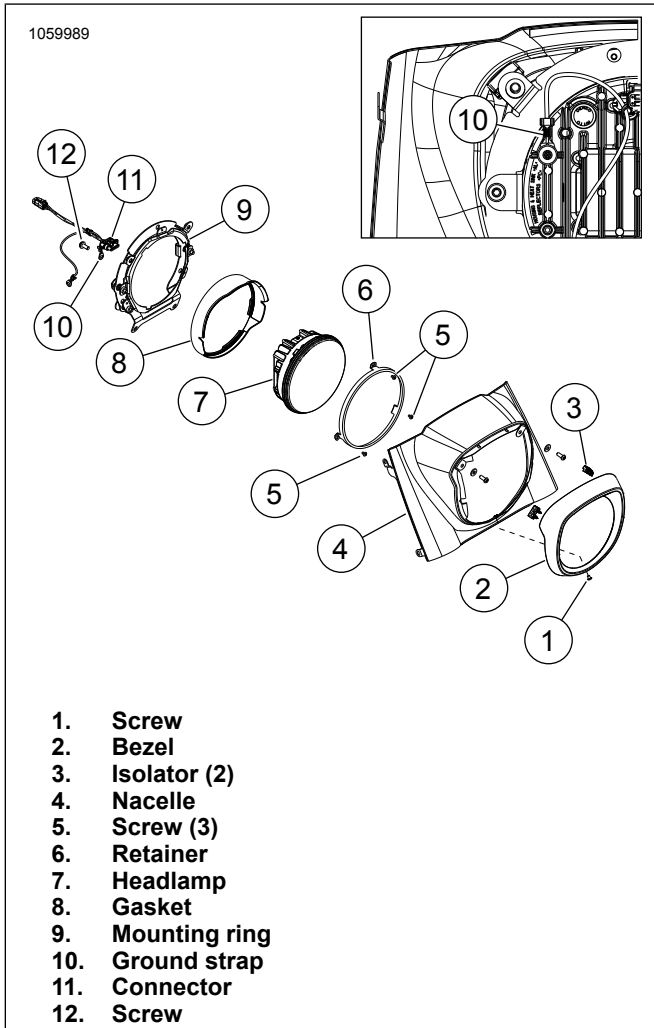

Figure 5. Nacelle Mounted Headlamp
1. See Figure 5. Remove Headlamp (7). See service manual.
2. Remove ground strap (10). Discard.
1. See Figure 5. Install Headlamp (7). See service manual.